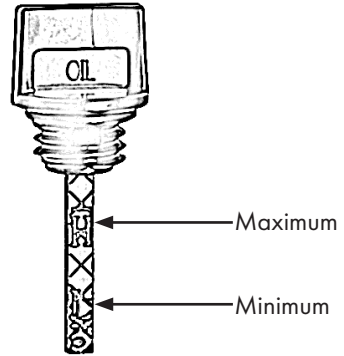

Figure 17
- Read the oil level, see also Fig. 17.
There must be an oil film between the upper and lower markings. If there is no oil film, the oil level is too low, Fig. 17. Top up with more oil. H-High stands for maximum. L-Low stands for minimum.